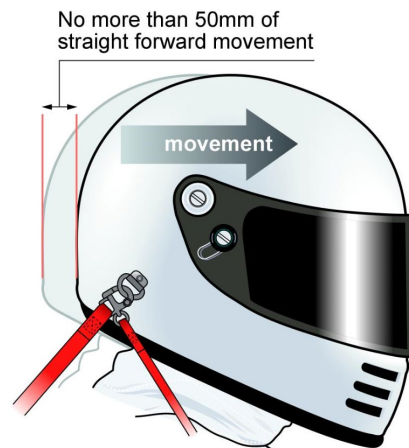

Figure 4 Movement to define the tethers adjustment
- It is recommended to fit the tethers so that they **will** allow the wearer forward head movement in the range of 25 mm to 50 mm, from the wearer's static or starting position in the car, as indicated in Figure 4. The static position is the position that the wearer is in while driving the race vehicle. The helmet should not be up against the rear headrest, but rather **be** in the normal driving position. (The chin should be up while doing this maneuver. It is a straight, forward motion.)